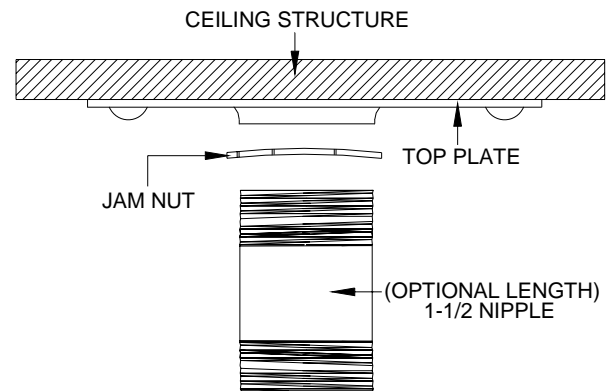

Figure 3. PBL Positioning
2. Screw the PBC coupling all the way onto the threaded nipple or (optional) 1-1/2" pipe and secure the M6 x 12 Phillip screw (Figure 3).